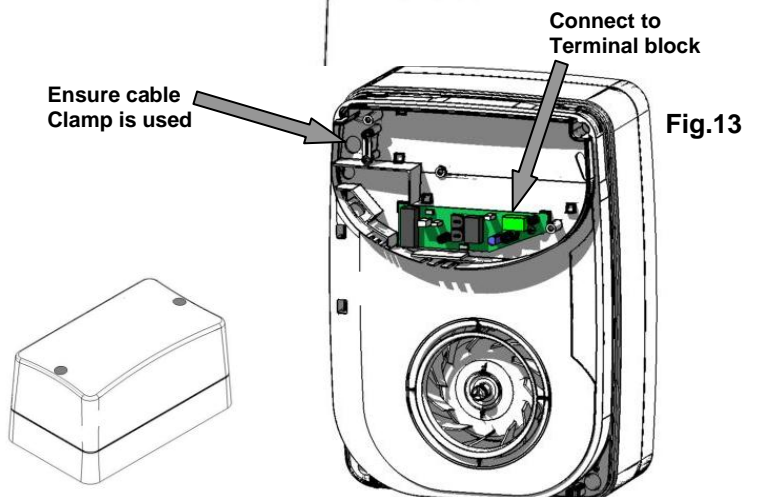

Fig.13
11) Close Door and connect 24V Supply as described in section B – Wiring, Adjust any settings as required see section C – Setup. Fig 13